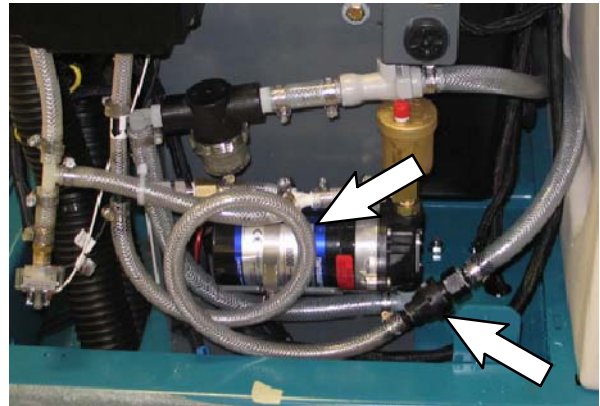

FIG. 15
28. Connect hose from the scrub head to the *ec-H2O* assembly outlet hose. Refer to Fig. 15.
NOTE: Be sure the outlet hose from ec-H2O assembly is looped as shown in Fig. 15.